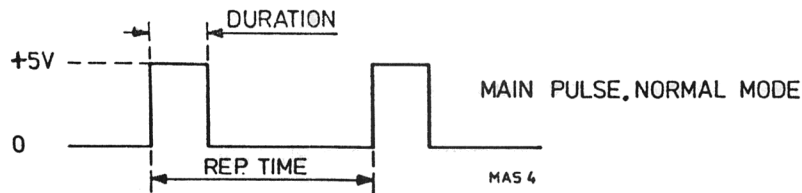

Fig. VI-1 Main pulse, normal mode PM 5705
- Connect an oscilloscope to the PULSE OUT connector via a 50 Ω termination and observe a pulse similar to fig. VI-1.